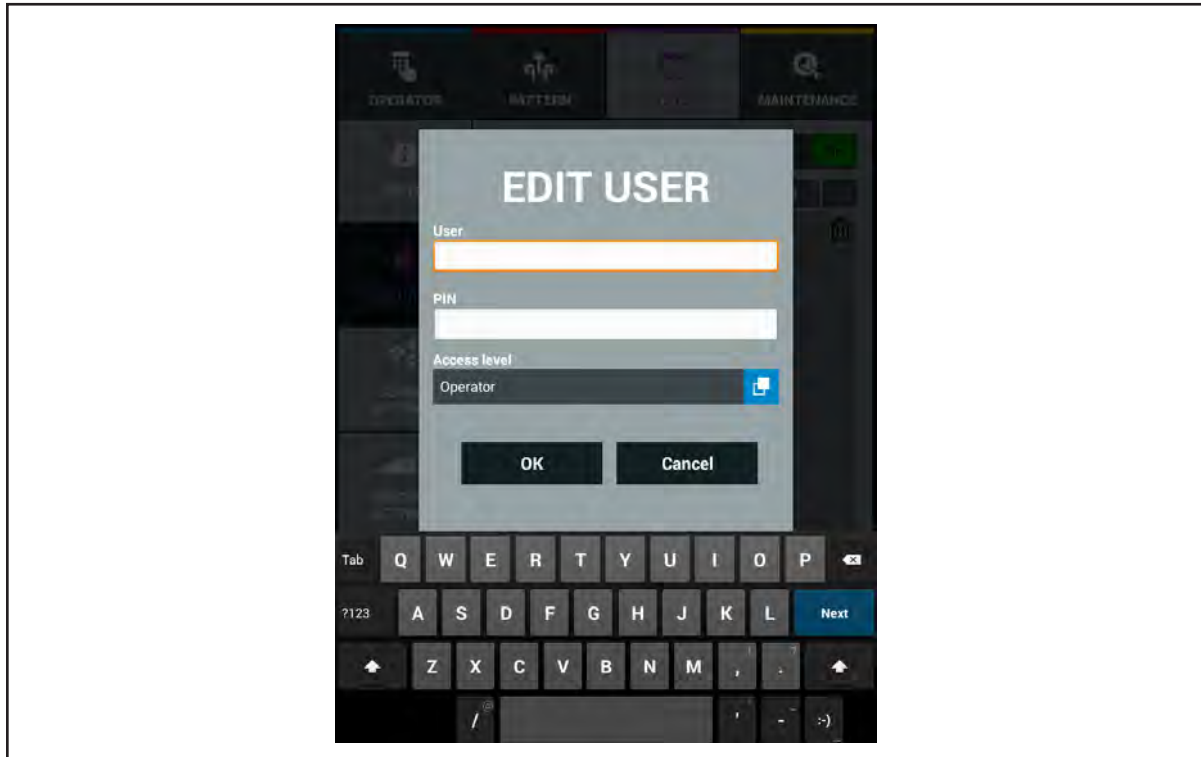

Figure 4-28. Security Add/Edit User
3. Select “Add User” at the bottom of the screen. Refer to *Figure 4-28*.